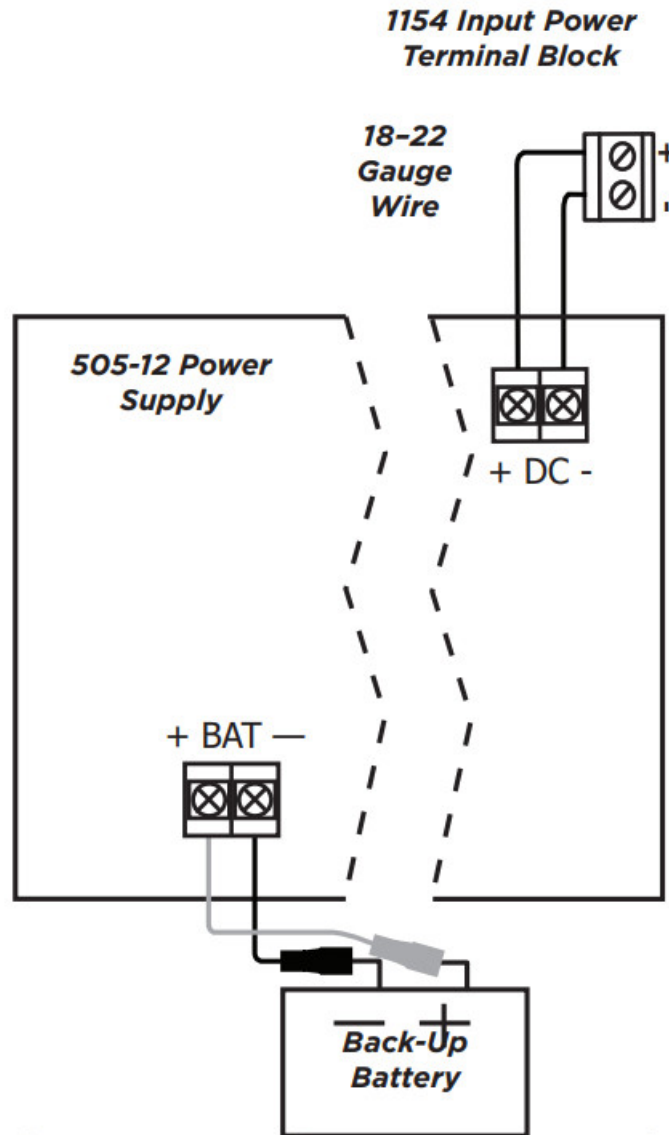

Figure 5: External 12 VDC Power Supply
2. Observing the polarity of all wired connections, use 18 to 22 gauge wire to connect the 1154's input power terminal block to the + DC – terminal on the 505-12 power supply. See Figure 5.